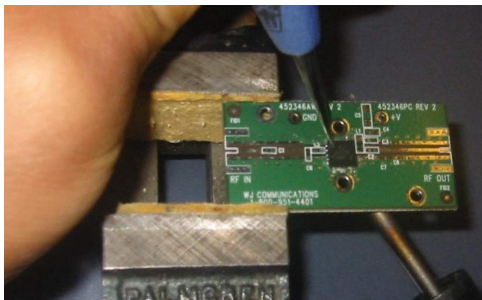

Figure 8. The device is aligned as the solder is molten.
8. While the solder is molten, the user should carefully align the device to the land pattern designated on the PCB for a proper attach as shown in Figure 8. It is normal to expect some solder to fill the vias underneath the device. As this happens, the solder should attach the device and make it flush with the PCB. Fillets may be seen on the exposed copper on the sides of the device to indicate a good attach.